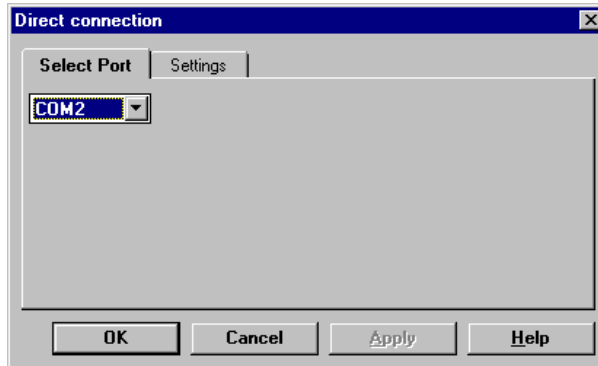

Figure 2.2: Direct Connection Dialog Box - Select Port Tab
1. After selecting **Direct Connect**, the **Direct Connection** dialog box (Figure 2.2) opens.